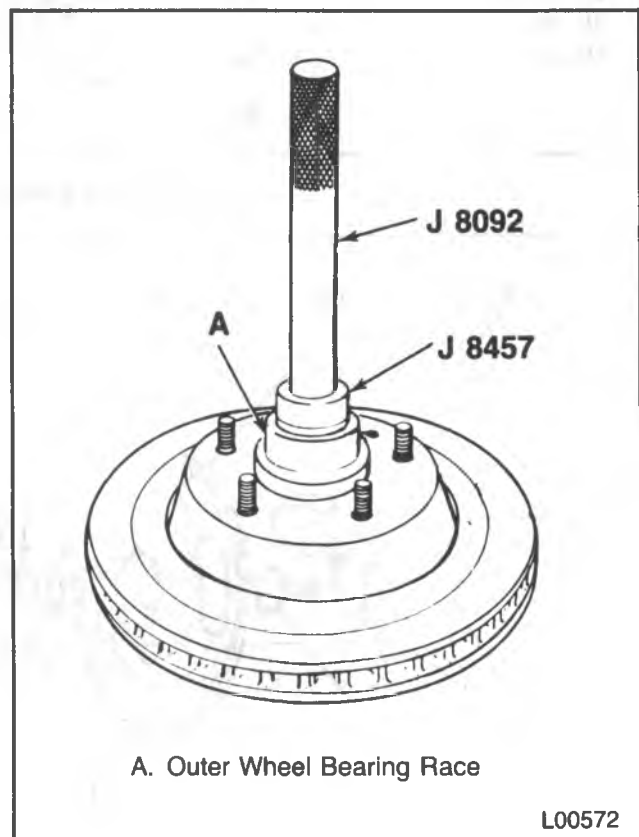

Figure 17 — Installing the Outer Wheel Bearing Race
1. Races (75 and 82) into the hub/rotor (81).
- Use J 8457 to drive the outer bearing outer race (75) into position (figure 17).
- Turn over the hub/rotor, remove J 9746-02, and drive in the inner bearing outer race (82) with J 8449.